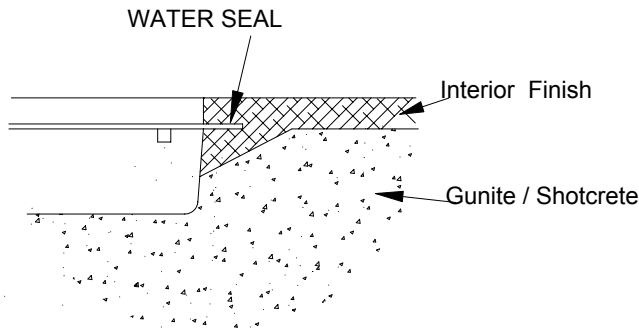

Figure 6
14. When the gunite or shotcrete is applied, pack the concrete tightly under the Channel Drain and finish the floor around the drain to 1/2" below the lip, then make a finger swipe under the water seal of the drain so that interior finish material can be applied under the lip of the water seal (see Figure 6).